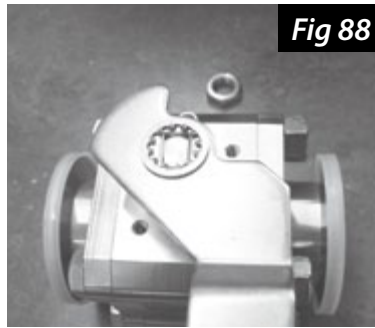

Fig 88
15. If your valve is equipped with a lock kit, skip to step 17. Otherwise, place the handle on the valve stem with a lock washer on top of the handle over the stem (Fig 88).
18. Place a lock washer onto the valve stem over the handle (Fig 88).